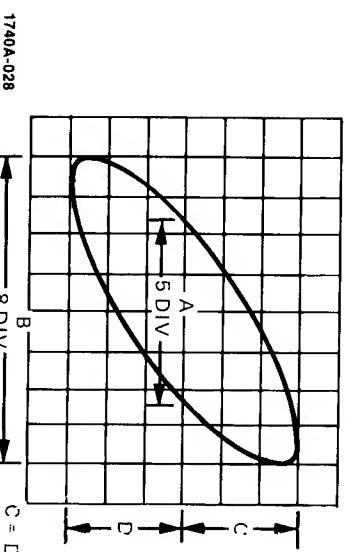

Figure 22a. A VS B Phase Measurement
4. Measure distances A and B as shown in figure 22a. A is the distance intersected by the trace on the
**Example:** In figure 22a, A equals five divisions and B equals eight divisions. Distance C is equal to distance D. The sine of the phase difference ( $\theta$ ) is  $A/B$ , which is 0.625.